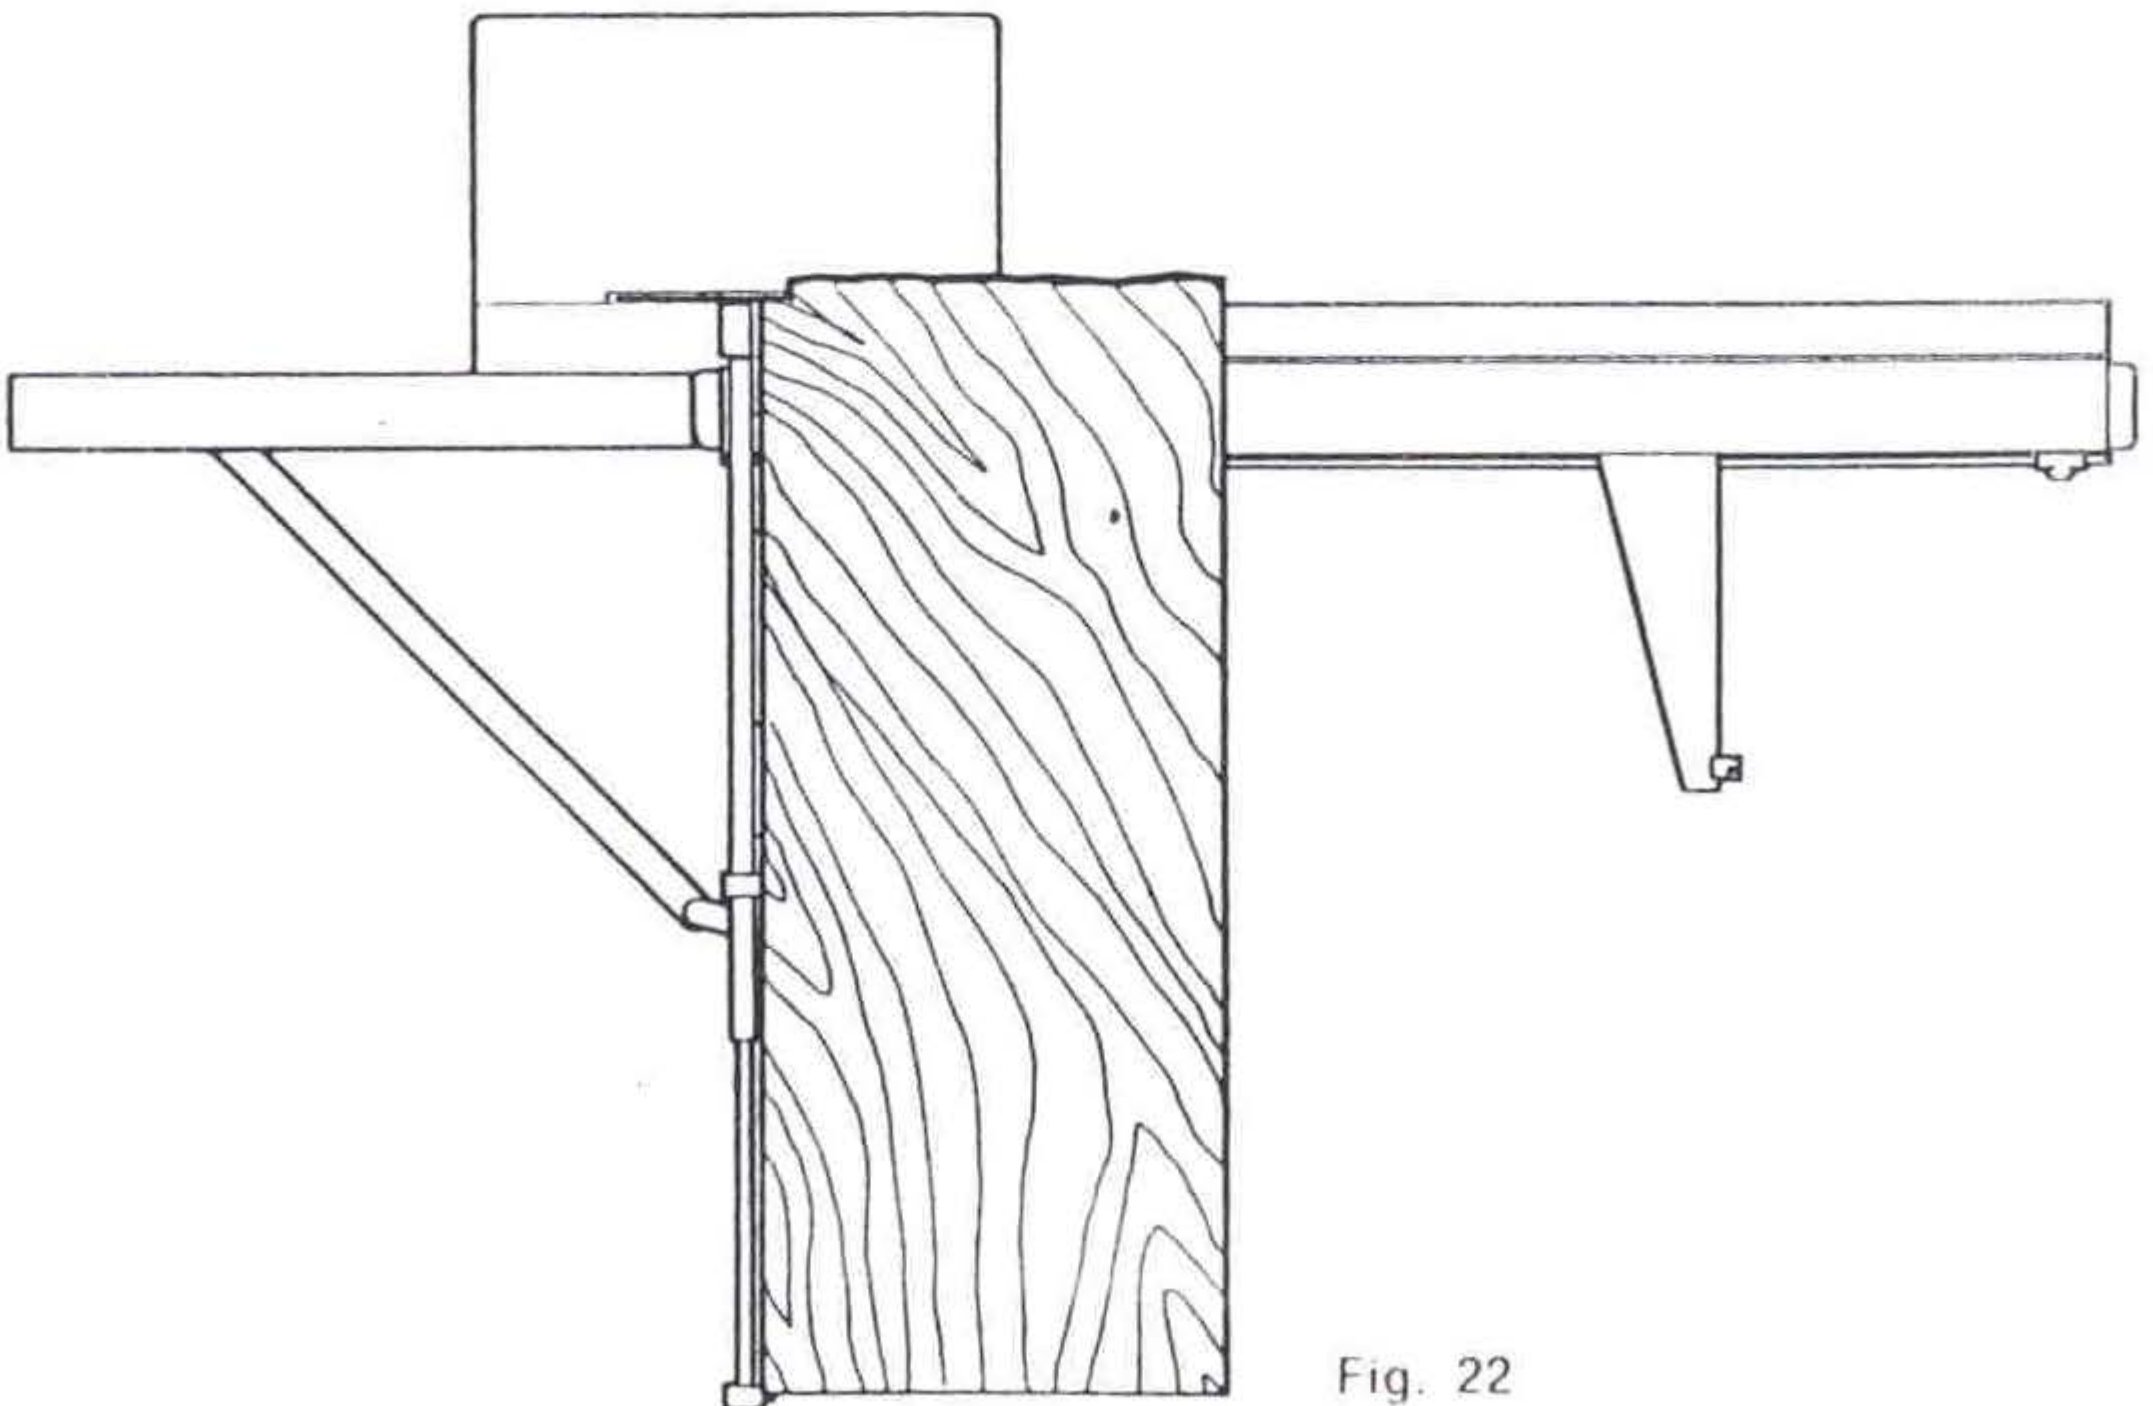

Fig. 22
- Finally a second trimming is taken, always using the aluminium crosscut fence and the second stop as measure (fig. 22).